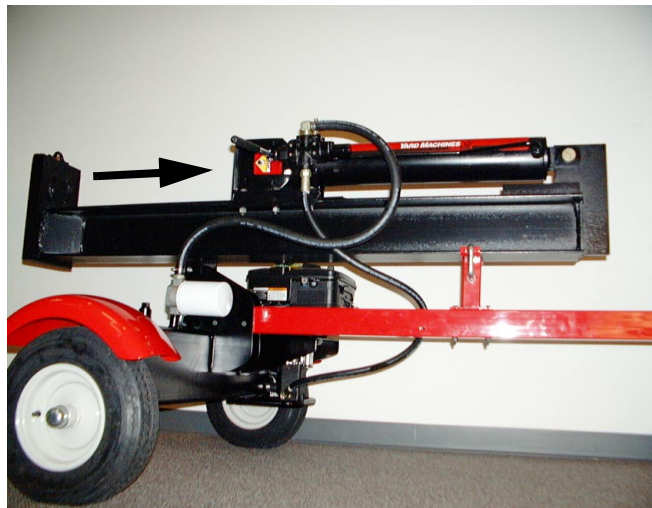

Figure 1
1. Make certain the wedge assembly is in the fully retracted position. \_\_\_\_\_ See Figure 1.